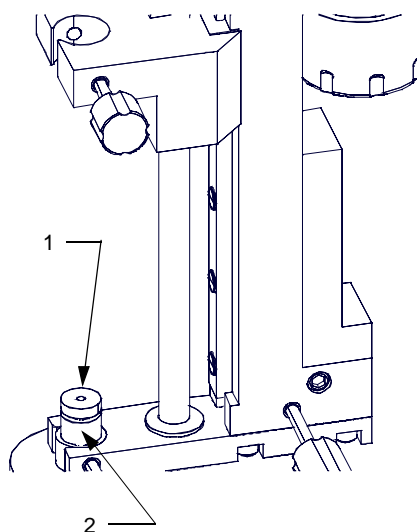

Figure 5
- 3 Remove the stylet and insert the spacer tube into the insertion tube until the spacer tube collar rests on the insertion tube collar. Please see Figure 5.